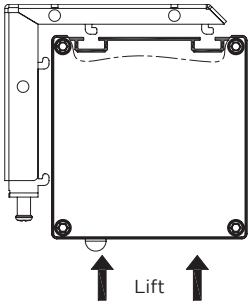
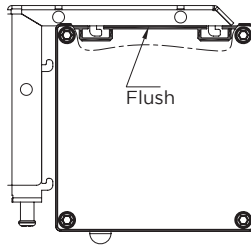
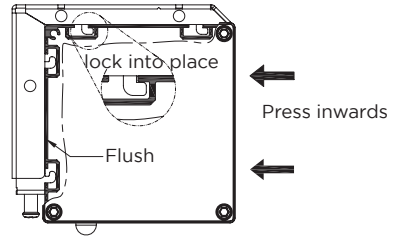

Fig. 8
Fig. 9
Fig. 10
- Carefully lift the screen and align it with the horizontal locking grooves on the brackets (Fig. 8). Insert the top of both brackets into the recesses on the screen housing until the brackets are flush with the top (see Fig. 9). Then carefully press the screen towards the wall so that the locking hook engages in the rear groove on the housing. Make sure that the screen is fully seated and flush, as shown in Fig. 10.